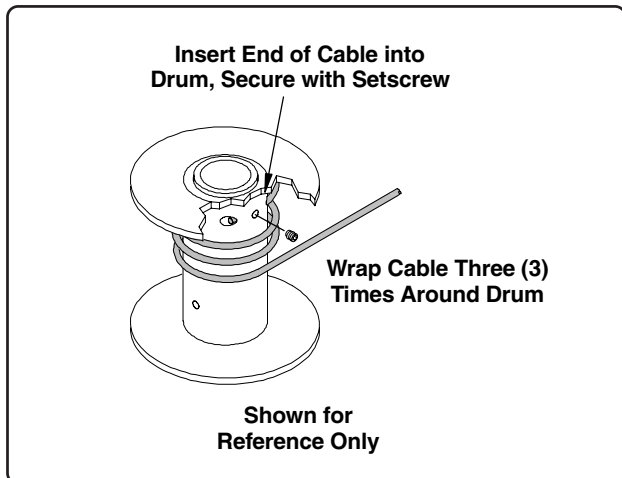

Fig. 35
Make three (3) wraps of cable around the winch drum, then insert the end of the cable into one of the larger holes on the drum (it may be necessary to loosen the setscrew to allow the cable to slide through the opening, See Fig. 35).